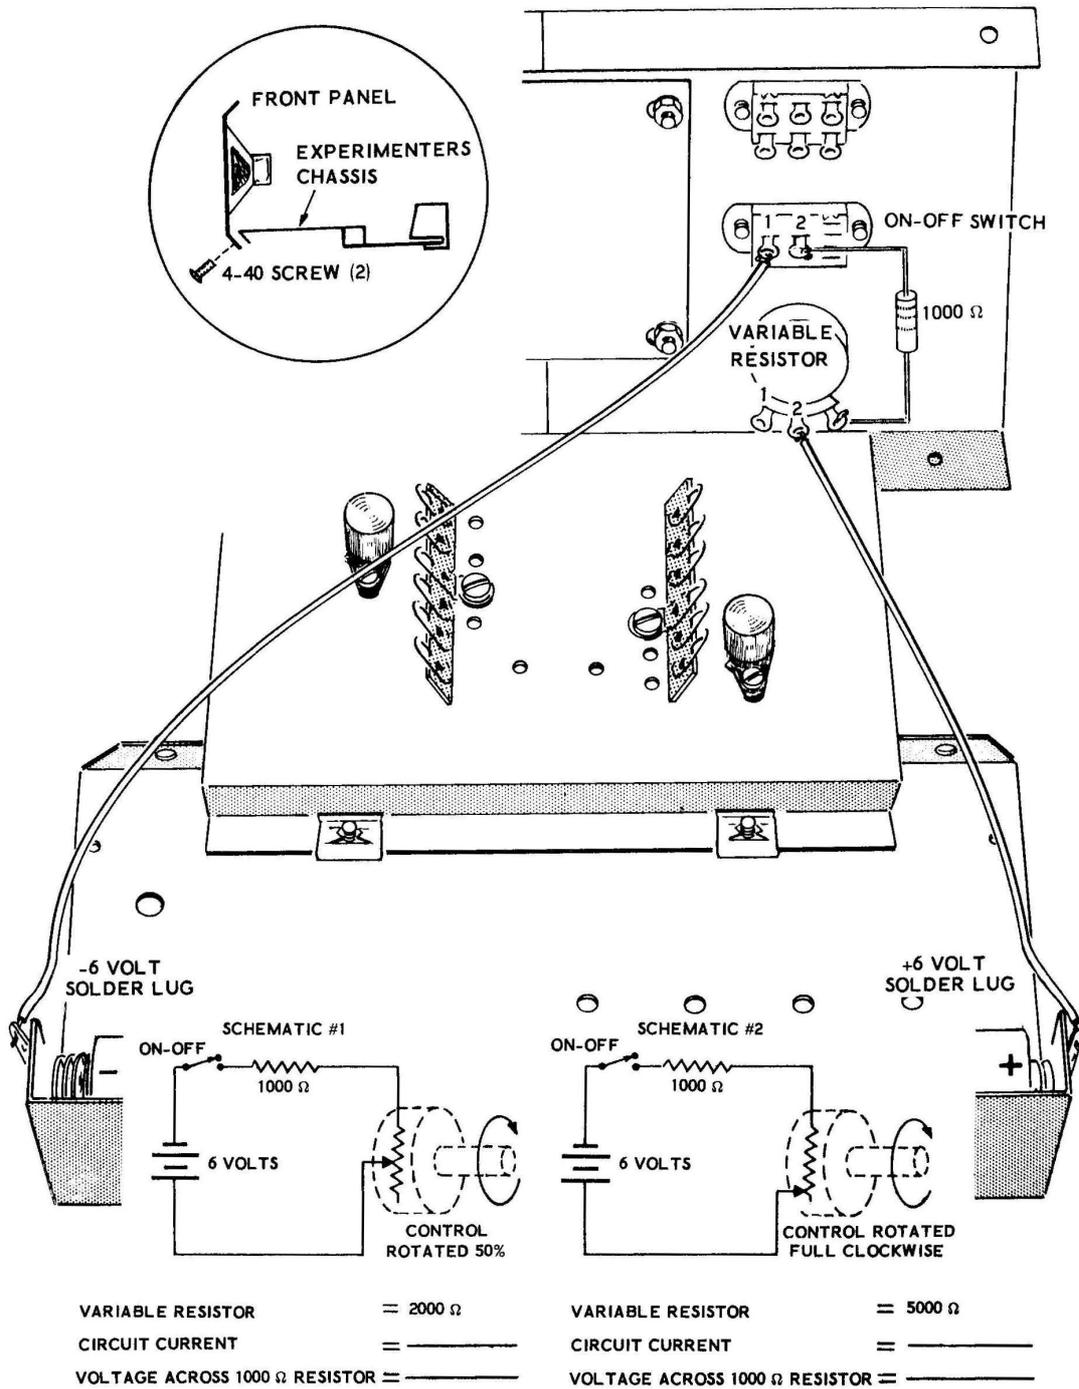
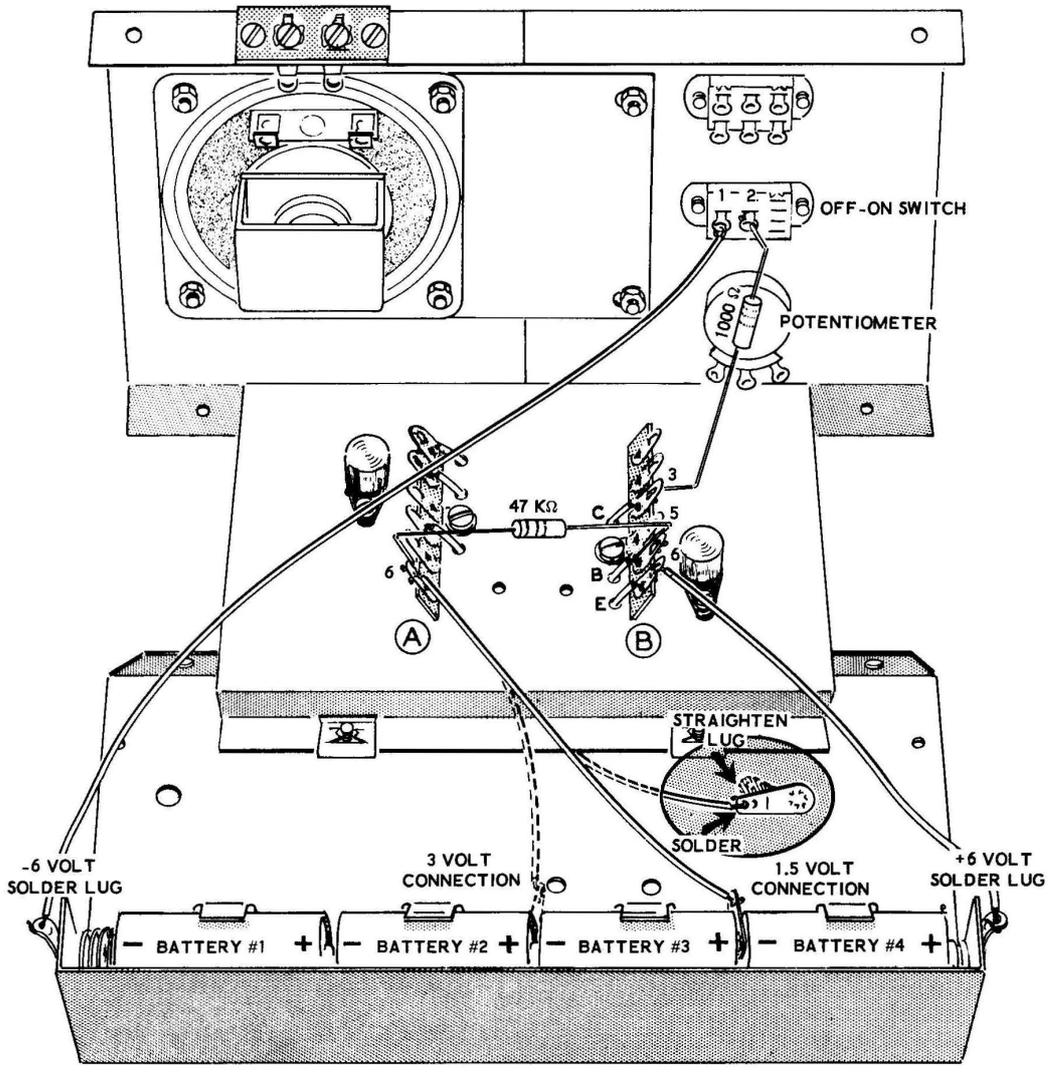

Figure 3K
Figure 3L
- () Fasten the assembled front panel to the front lip of the experimental chassis as it is in the inset in Figure 3K by installing two 4-40 screws into the 4-40 speednuts on the front flange of the experimental chassis.
Refer to Figure 3K for the following steps.
() Remove your meter leads from lugs 2 and 3 of the variable resistor. You have now adjusted the variable resistor to give you the circuit of Schematic #1 of Figure 3K.
- () Connect the minus voltmeter lead to lug 2 of the ON-OFF switch and connect the positive voltmeter lead to lug 3 of the variable resistor. Turn the ON-OFF switch ON. Note the reading on the meter. This is the voltage across the 1000 Ω resistor. Mark it down in the correct blank below Schematic #1 of Figure 3K.
- () The circuit has now been adjusted so that your meter will read the current flowing in Schematic #2 of Figure 3K. Note the current reading on the meter and write it down in the proper blank below the schematic.
- () Now connect the negative meter lead to lug 2 of the ON-OFF switch and connect the positive meter lead to lug 3 of the variable resistor. Note the voltage reading on the meter and insert it in the proper blank below Schematic #2 of Figure 3K.
Refer to Figure 3L for the following steps.
- () Disconnect the 1000 Ω resistor lead from lug 3 of the variable resistor and connect it instead to lug 3 of terminal strip B (S).
- () Disconnect the lead from lug 2 of the variable resistor and connect it instead to lug 6 of terminal strip B (S).
- () Connect a 47 K Ω resistor from lug 6 of terminal strip A (NS) to lug 5 of terminal strip B (S).
- () Connect a #6 solder lug to one end of a 6-1/2" hookup wire as shown in the inset drawing of Figure 3L (S). Squeeze the solder lug out flat with pliers before soldering the lead to it.
NOTE: The experimental chassis is now wired with the circuit shown in schematic #1 of Figure 3L. To make the schematic diagram easier to follow, the battery which controls the current in the transistor is shown separately. Actually it is battery #4 that is used for this purpose, as well as its normal purpose of supplying power to the rest of the circuit (in series with the other three batteries). The 47 K Ω resistor is used only as a protective device (current limiter) in the circuit, and it should not be considered as an integral part of the experiment.
- () The circuit of Schematic #1 is now completed since your meter bridges across the ON-OFF switch. Note the reading on the meter and mark it down in the blank for measured circuit current (I) on Schematic #1 of Figure 3L.
- () Turn the ON-OFF switch to the ON position and note the reading on the meter. Mark this voltage reading down in the blank for the "measured voltage across R1," the 1000 Ω resistor at Schematic #1 on Figure 3L.
SCHMATIC #1 OF FIGURE 3L
SCHMATIC #2 OF FIGURE 3L
() Note the current indicated by the meter and mark it down in the blank for "measured Circuit Current" (I) at Schematic #2 of Figure 3L.
() Turn the ON-OFF switch ON and note the meter reading. Mark this voltage reading down in the blank for "measured voltage across R1" at Schematic #2 in Figure 3L.
When you have calculated this resistance, mark it down in the correct blank at Schematic #1 of Figure 3L.
- () When this transistor resistance has been calculated, mark it in the proper blank at Schematic #2 of Figure 3L.
Experiment 1 (Figure 3K) showed how current can be controlled with a variable resistor. By changing the setting of the variable resistor, the current in the circuit changed and when the current changed, it changed the voltage across resistor R1. Experiment 2 (Figure 3L) showed that the same type of control can be accomplished using a transistor in place of the variable resistor. Notice that the voltage at R1 was changed by changing the voltage connected between the Base and the Emitter of the transistor. When this voltage at the Base of the transistor was changed, it changed the resistance of the transistor in the series circuit. When the resistance of the transistor changed, it changed the current flowing in the circuit just as the variable resistor did. The result of the current change was the same as the result obtained in Experiment 1, the voltage across R1 changed.